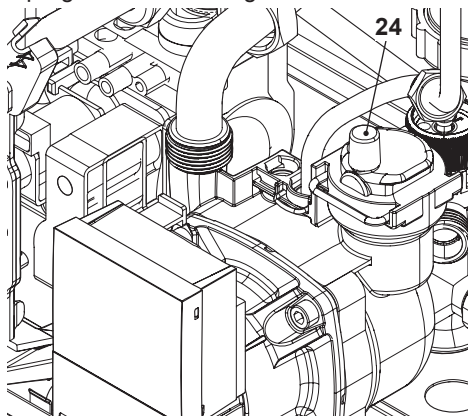
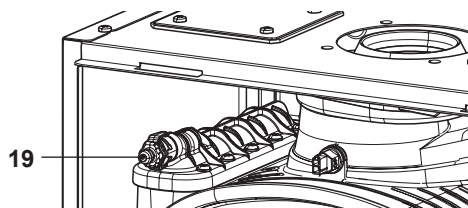

Fig. 9.7
Fig. 9.8
- To make draining easier, lift the plug 24 of the automatic relief valve in Fig. 9.7. To help the draining of the primary circuit loose the condensing heat exchanger air purger valve 19 in Fig. 9.8.